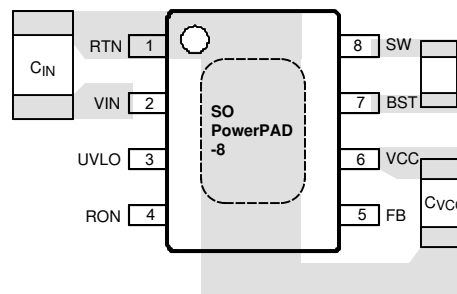

Figure 10-1. Placement of Bypass Capacitors
1. C_{IN} : The loop consisting of input capacitor (C_{IN}), V_{IN} pin, and RTN pin carries switching currents. Therefore, the input capacitor must be placed close to the IC, directly across V_{IN} and RTN pins and the connections to these two pins should be direct to minimize the loop area. In general it is not possible to accommodate all of input capacitance near the IC. A good practice is to use a 0.1- μ F or 0.47- μ F capacitor directly across the V_{IN} and RTN pins close to the IC, and the remaining bulk capacitor as close as possible (see Figure 10-1).
2. C_{VCC} and C_{BST} : The V_{CC} and bootstrap (BST) bypass capacitors supply switching currents to the high and low side gate drivers. These two capacitors should also be placed as close to the IC as possible, and the connecting trace length and loop area should be minimized (see Figure 10-1).